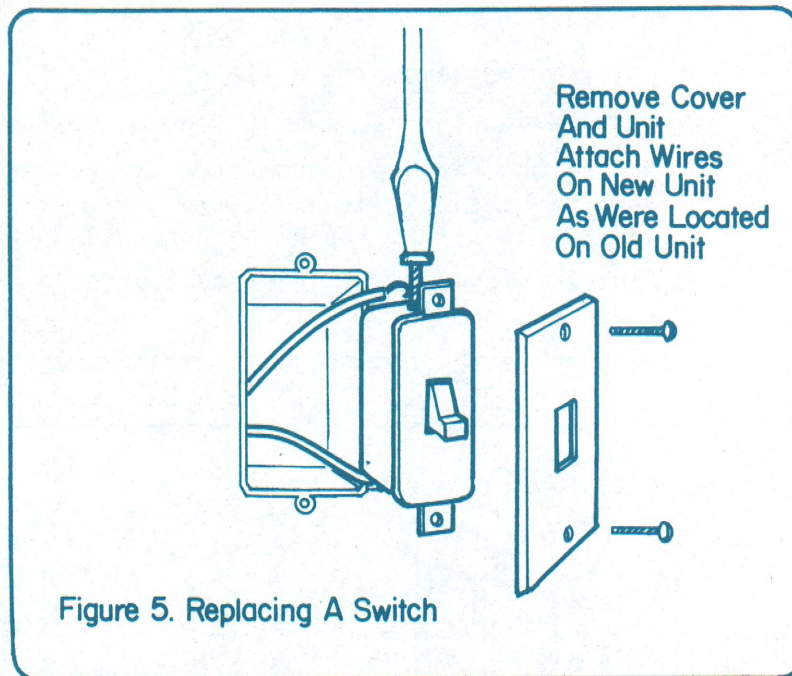

Figure 5. Replacing A Switch
- Unscrew and remove face plate Figure 5